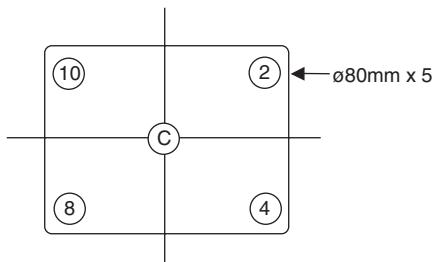

FIGURE 1
- (2) Turn over the direction of CPT axis direction magnetic field of the next artificial magnetic field and after degaussing it from outside, check the purity in each color of R, G, B visually. Turn the screen to white and check the landing at the screen position shown in fig. 1. The positions of miss landing criteria with a microscope should be 2, 4, 8 and 10 (Figure 1).